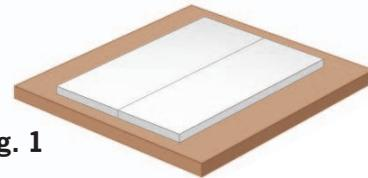

Fig. 1
1. Clear your work area and place the fireproof mat where you will work. Place two blocks of paraffin side by side as shown in Fig. 1. Push the blocks together tightly and evenly.
6. Place the second set of blocks side by side as shown in Fig. 1. Push the blocks together tightly and evenly. Open the C-clamps so that you can fit them quickly and easily over the blocks as shown in Fig. 3. Put the open clamps aside.